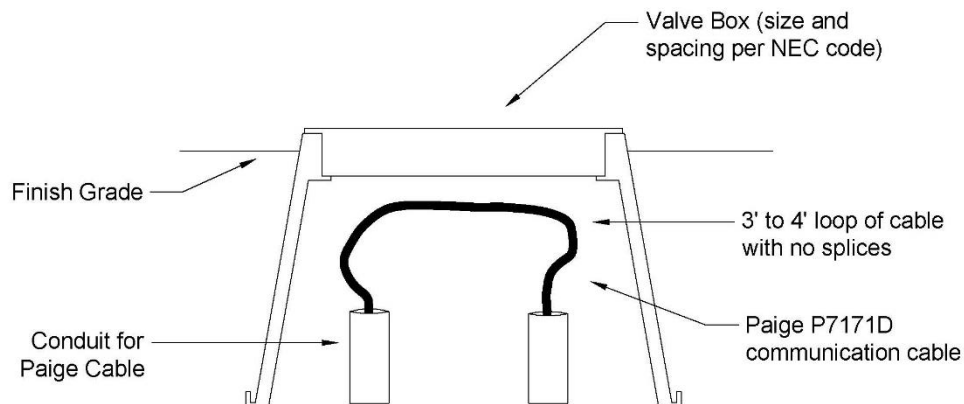

Figure 12 - Recommended wiring for Hardwire communication options
- Expansion loops in accordance with appropriate NEC codes for pulls of more than 100 feet (Figure 12). Splices are not recommended